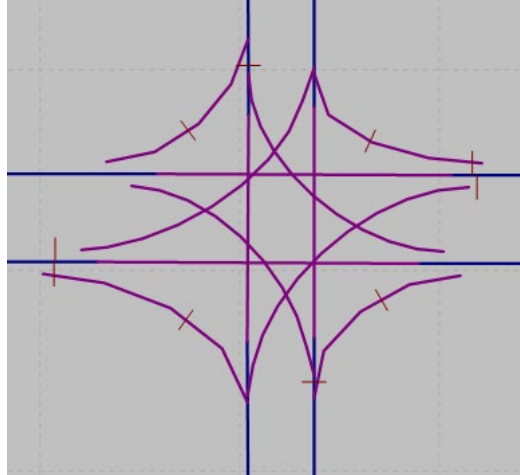

Figure 26: Buzz Blvd and Burdell Dr. with through movement connectors
- step iv. Repeat Steps 1 through 3 for the WB, NB, and SB *links*, *Figure 26*.